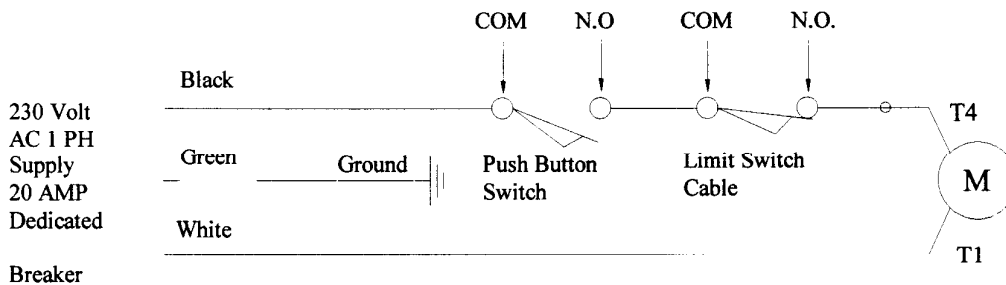

FIGURE 6
25. Establish power hook-up to 220V - 1 Phase power. Figure 6.